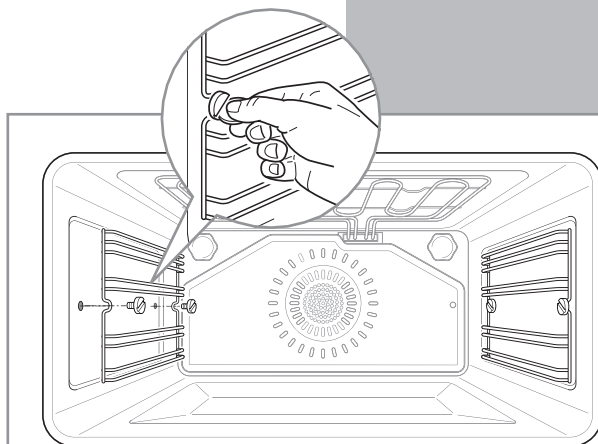

Fig. 5
- Assemble the wire racks to the oven walls using the 2 screws (Fig. 5).